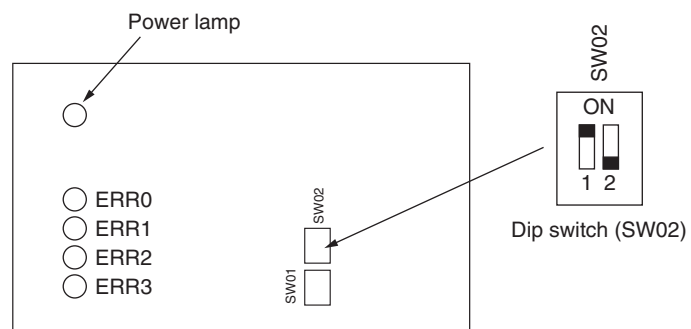

Fig.4 Control P.C.Board
- When the switch No.1 of the dip switch (SW02) on the control P.C.Board is turned ON, the maximum current value change function is available. (Fig. 4)
- Using the switch No.2 of the dip switch (SW02) on the control P.C.Board, the maximum current value is changed. (Fig. 4)